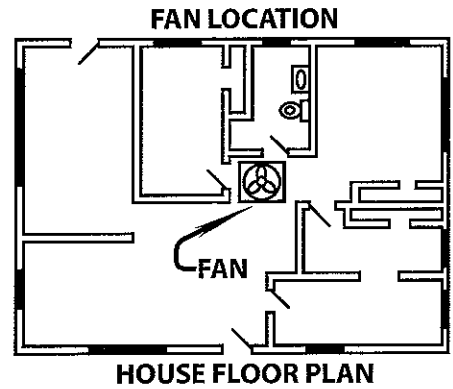

Figure 2
1. Generally the best place in the house to install a whole house attic fan is in a centrally located hallway. REMEMBER that free passage of air from the fresh air intake, through open windows or doors, to the fan, is necessary during operation. If the fan is located in a room, the door to the room must remain open anytime the fan is operating. (See Fig 2)